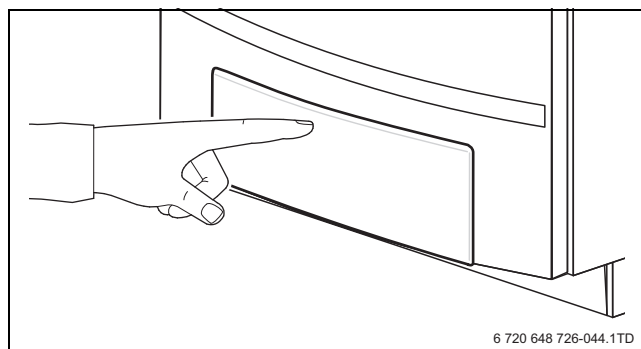

Fig. 95 Closing the control panel
- ▶ Press on the control panel to close it (→ fig. 95, page 45).